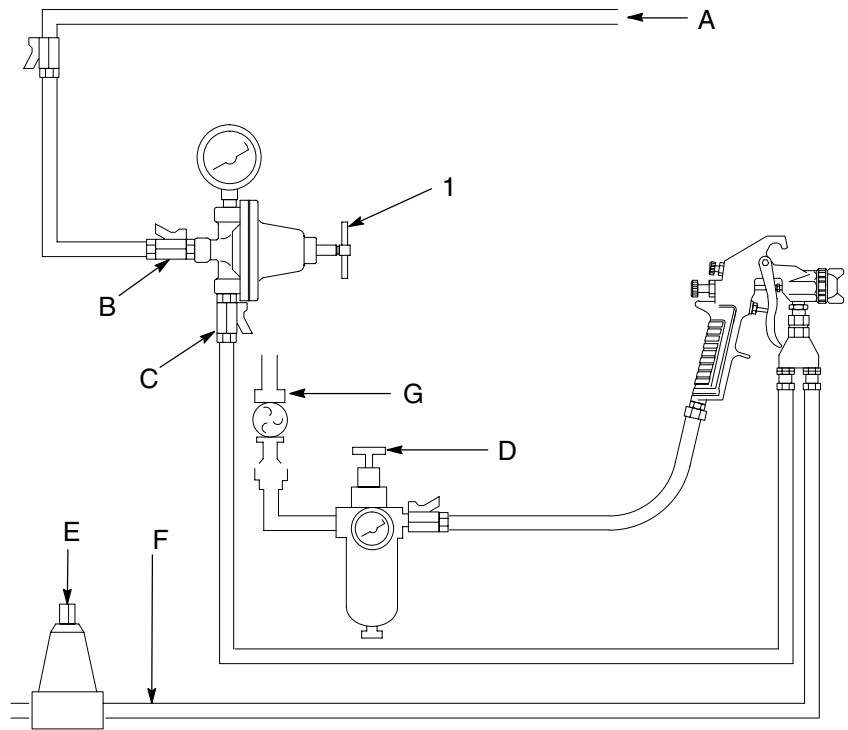

Fig. 1
1. See Figs. 1 and 2 on page 5. Install one regulator for each spray gun. Mount the regulator in a vertical position for the best flow and minimum pigment settling. The gauge, if used, must be mounted vertically. If the regulator is mounted horizontally, an elbow must be used so the gauge will be vertical.
2. Close the fluid regulator's inlet ball valve (B). Refer to Fig.1, page 5.
4. In spring-operated regulators, turn the adjustment handle (1) counterclockwise until the spring force is relieved.
**NOTE:** Reference numbers and letters in parentheses in the text refer to Figs.1 through 5 and the Parts Drawings.
2. Start the pump and open the fluid regulator's inlet ball valve (B) to admit fluid to the regulator. See Fig. 1.
- a. Shut off the pump and relieve fluid pressure in the system by opening the back pressure valve (E) or other bypass valve. See Fig. 1.
1. Shut off the pump. Close the ball valve at the regulator's fluid inlet. Refer to Fig. 1, page 5.